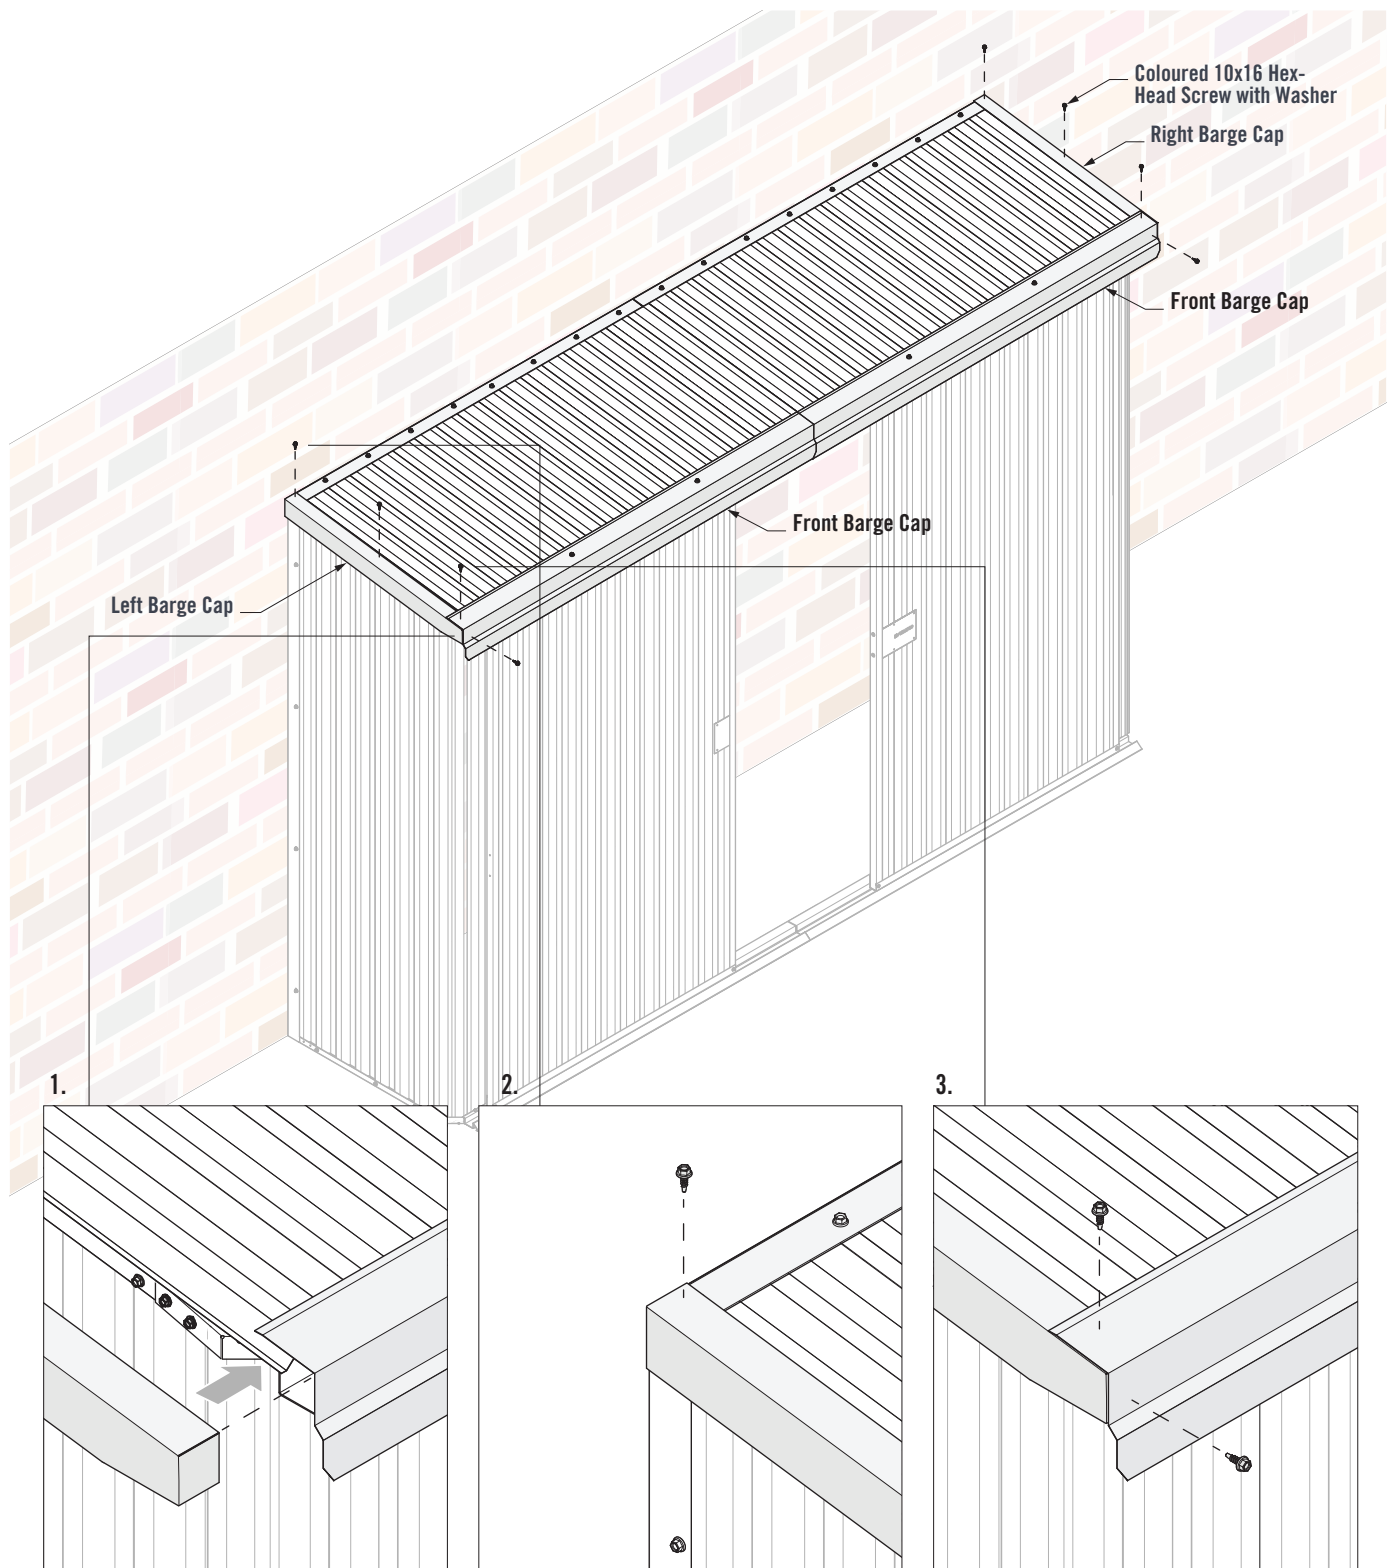

FIGURE 10.4
1. Place the Left Barge Cap over the Roof Sheet at the left of the shed. Ensuring the Left Barge Cap is against the Wall and Roof Mount Channel. Ensure the Left Barge Cap is positioned behind the Front Barge Cap (Figure 10.4).
2. Fasten a Coloured 10x16 Hex-Head Screw with Washer through the Left Barge Cap and into the Roof Mount Channel. Fasten a Coloured 10x16 Hex-Head Screw with Washer through the centre of the Left Barge Cap and into the Roof Sheet (Figure 10.4).
3. Fasten two Coloured 10x16 Hex-Head Screws with Washers through the Front Barge Cap and into the Left Barge Cap and Gutter (Figure 10.4).